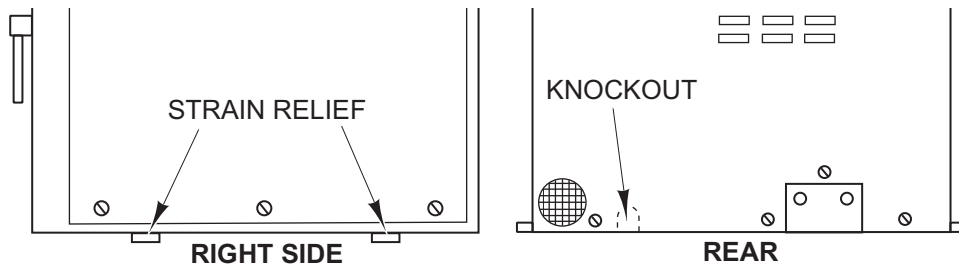

Fig. 2
**NOTICE** Do not drill a hole in the back panel for electrical connection. Use the strain relief locations on the lower right side or the knockout on the back panel (Fig. 2). This will allow proper access to components for service.